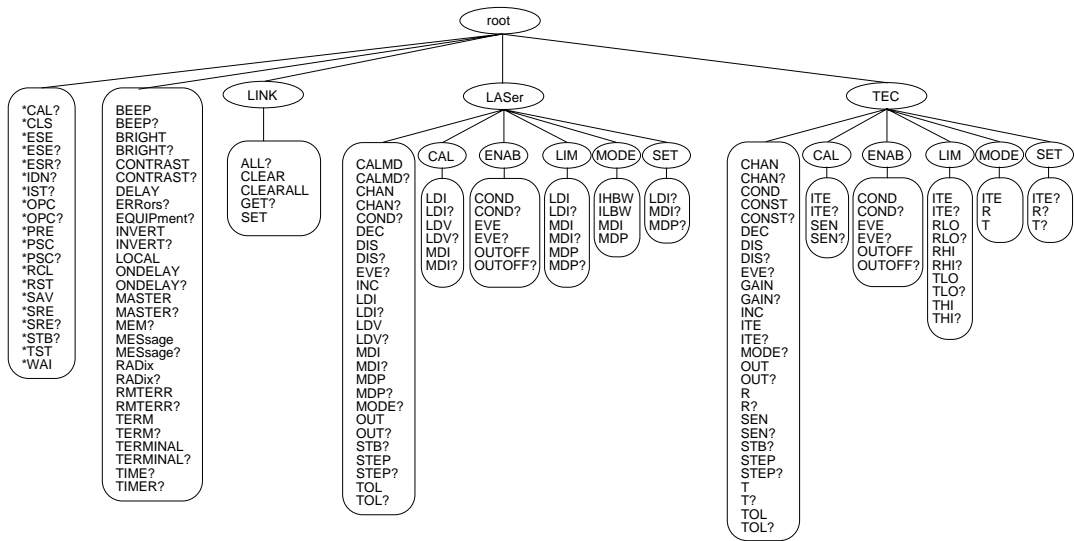

Figure 4 - Command Path Structure
If you are not sure of the path level of a command, refer to the controller Command Path Structure diagram shown in Figure 4. For this discussion, the root level is the highest level, and moving down the diagram decreases the level. Once the software has "walked" to a lower path level, it remains at that level when it receives the next command. For example, to (1) set the laser display to show the set point, (2) decrement the set point, and (3) set the TEC high temperature limit, the following command string could be used: